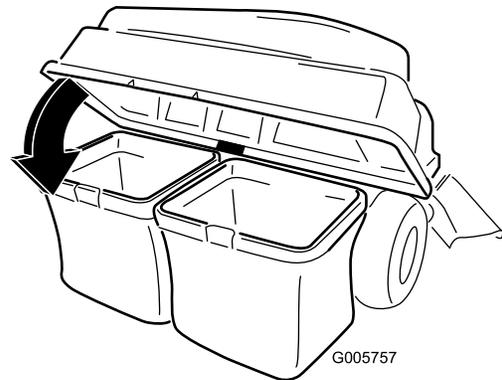

Figure 5
- Lower the bagger top onto the bag (Figure 5).